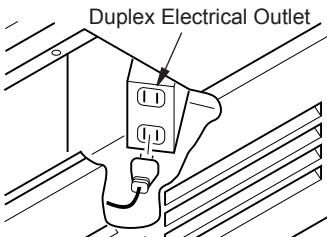

Figure 14 - Accessing Duplex Electrical Outlet Installed in Bottom Right Side of Firebox
WARNING: If there is a duplex electrical outlet installed in the right side of the bottom of the fireplace base area (see Figure 14), be sure that the electrical power to the outlet is turned off before proceeding with blower installation. Failure to do this may result in serious injury.
12. Plug in blower power cord to duplex outlet (see Figure 14, page 15).
6. Plug in blower power cord to duplex outlet (see Figure 14, page 15).